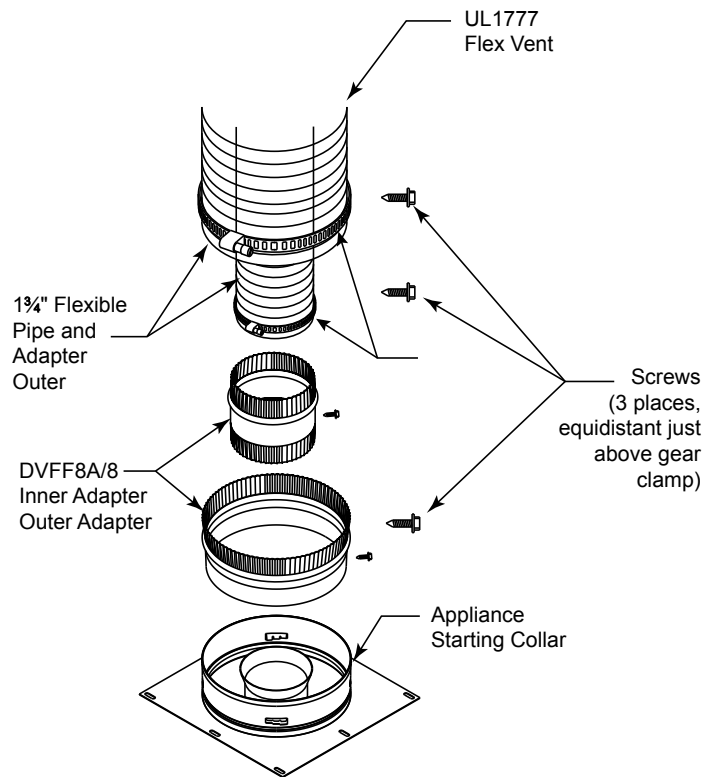

Figure 26 - Typical Appliance Connection
2. The flex adapter starter kit (DVFF8A/8) is used to attach flex venting to the appliance starting collar. It includes 5" inner and 8" outer adapter rings. *Figure 26*
A. Installing the inner flex adapter and pipe. *Figure 26*
B. Installing the outer flex pipe. *Figure 26*